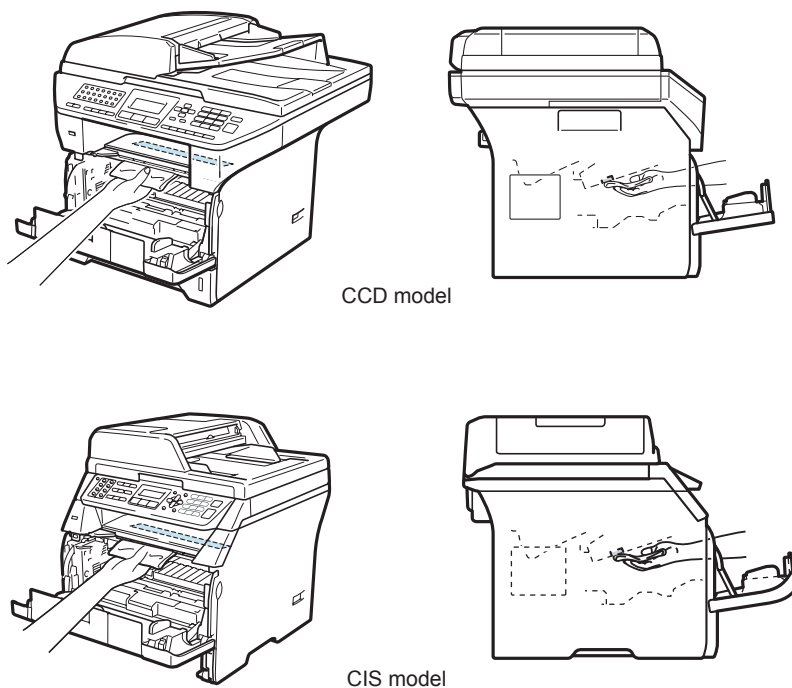

Fig. 3-6
- Clean the scanner windows of the laser unit with a soft lint-free cloth. (Refer to Fig. 3-6.)